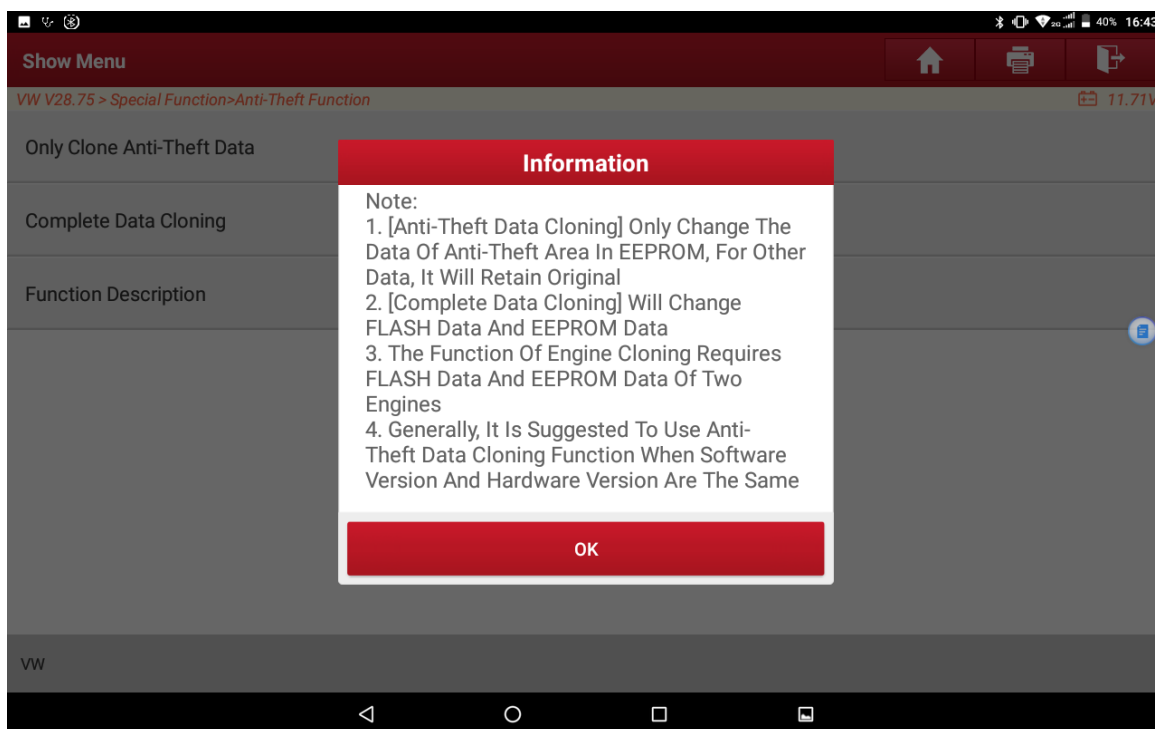

Figure 5
4. Click **【ECU Cloning】** -> **【Function Description】** to view what data is needed for the cloning function, and perform the function of Only Clone Anti-theft Data in this case, as shown in Figure 5;